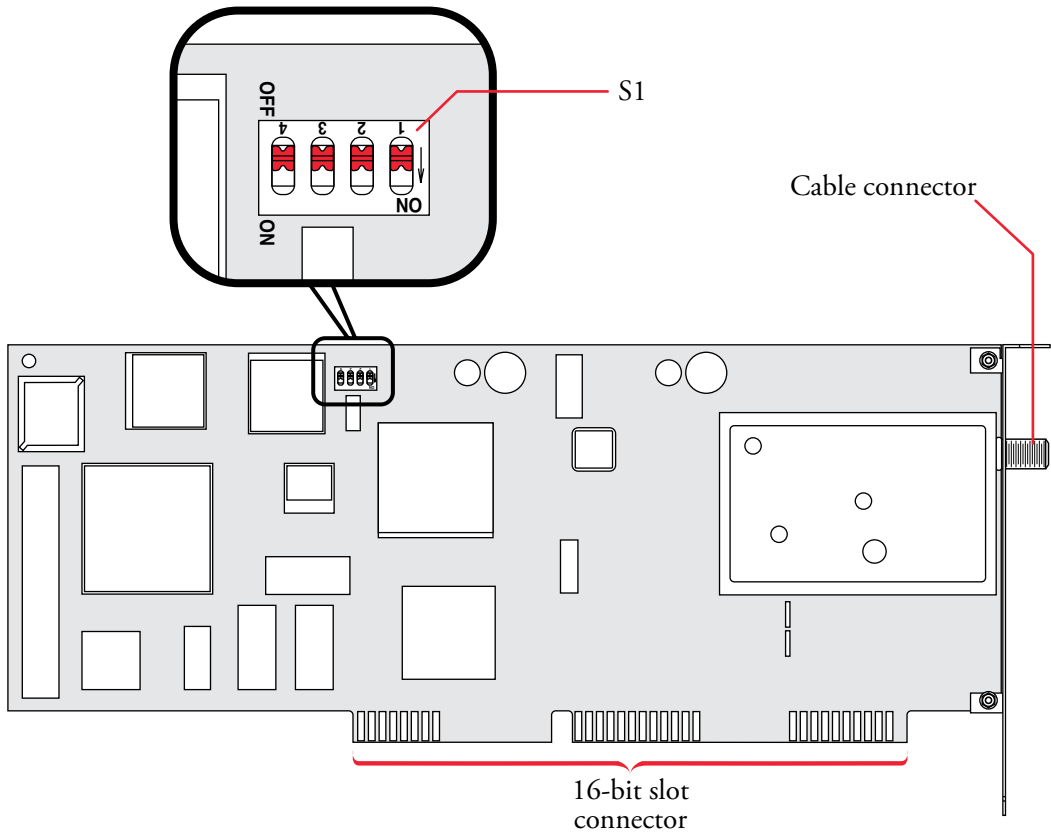

Figure 2-4. Locating S1 and the cable connector
7. Verify that all of the S1 switches on the DirecPC adapter (see figure 2-4 for location) are set to *OFF*.